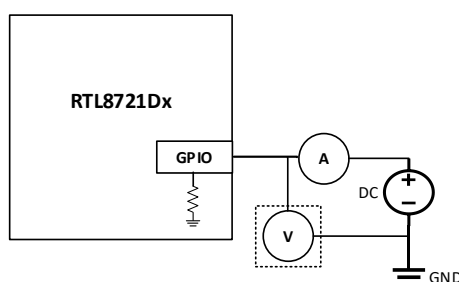

Figure 6-3 I/O Pull down resistor test
- According to Figure 6-3, use an external power supply to provide the same voltage (V_2) as the GPIO power, and measure the current